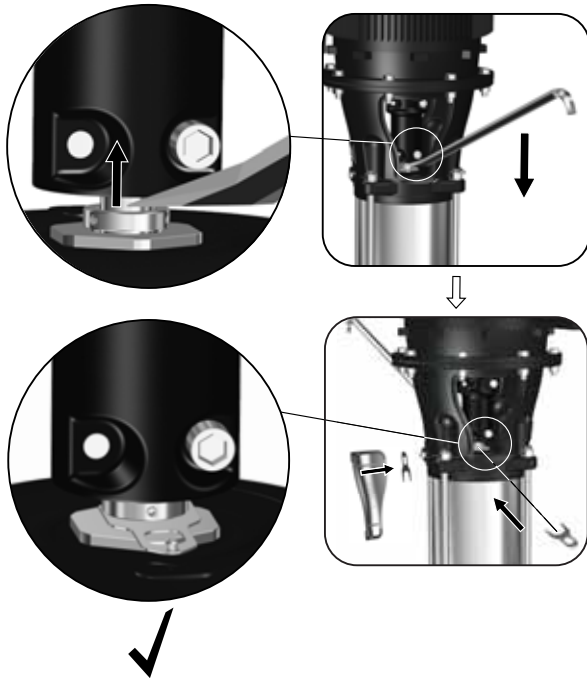

Fig. 2 Lifting pump shaft and fitting adjusting fork.
8. Tighten the three set screws (113) to the specified torque. See section 4.1 *Torques*.
9. Lift the pump shaft with a crowbar and insert the adjusting fork D. See fig. 2.